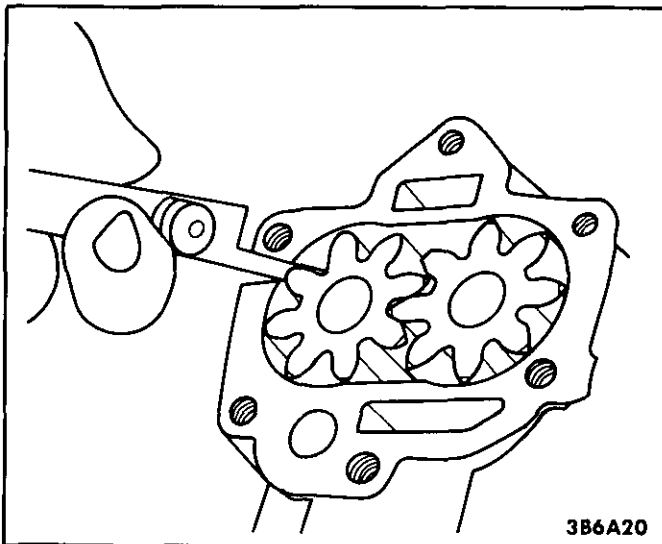

Figure 21 Measuring Gear Side Clearance
- Gear side clearance, if applicable (Figure 21)